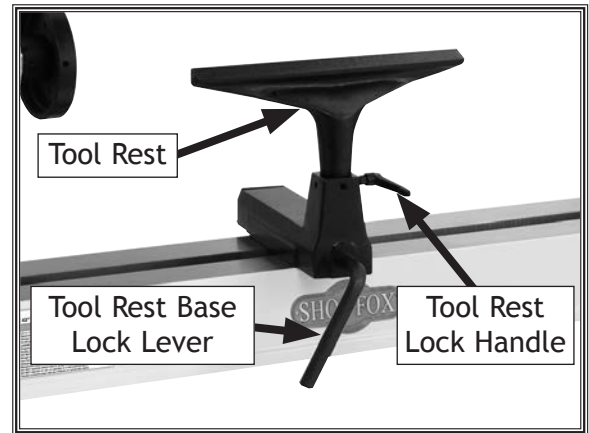

Figure 21. Tool rest controls.
1. Loosen tool rest base lock lever and move tool rest assembly to desired position on lathe bed, as shown in **Figure 21**.
1. Loosen tool rest lock handle (see **Figure 21**).